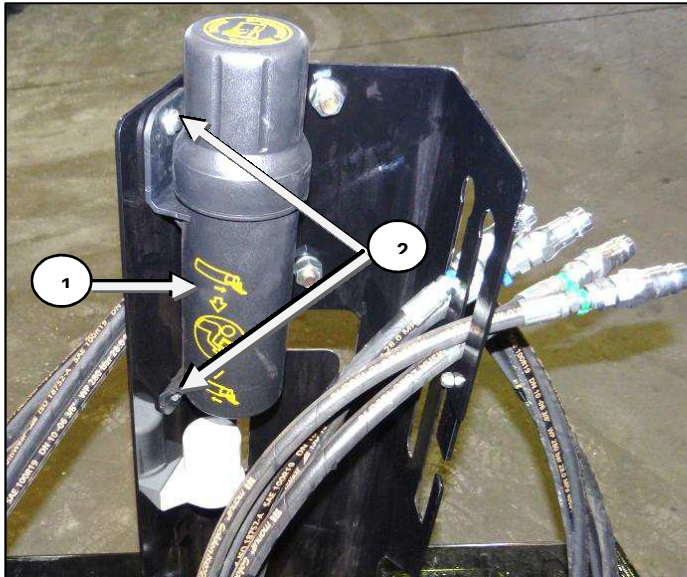

Figure 58
Locate the manual storage container (Item 1, Figure 58), two 5/8" x 2" bolts (item 2), two 5/16" lock washers and two 5/16" nuts